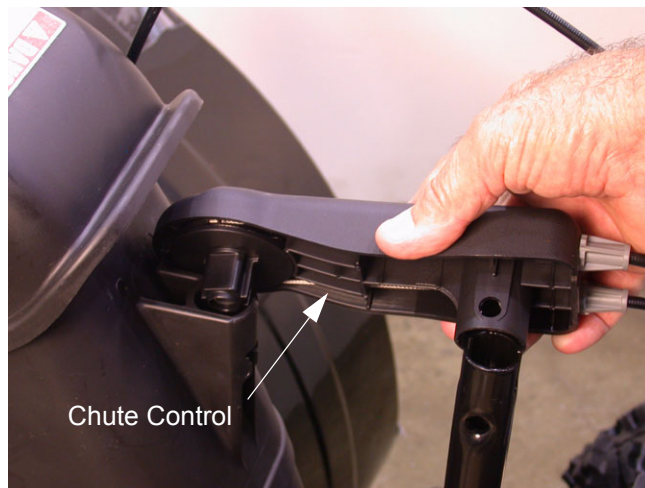

Figure 4
- 2.4. Insert the round end of the chute control box on the short tube of the chute assembly. See Figure 4.